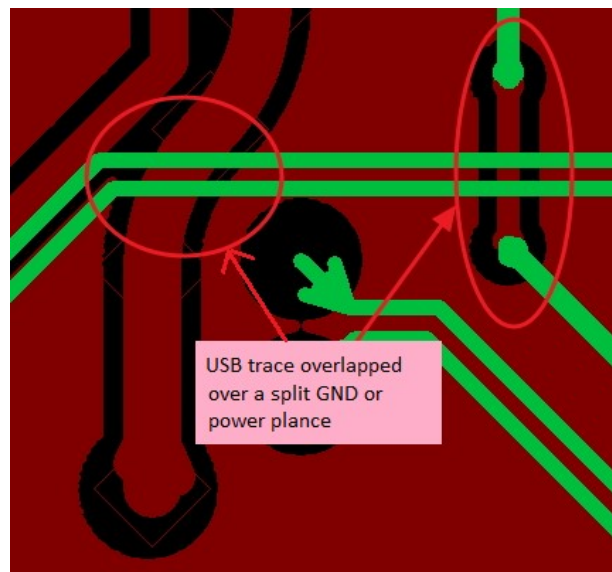

Figure 3
- Never route USB2.0 differential traces over the split ground and power planes as Figure 3. For a worse example as Figure 3, USB2.0 differential traces are routed on the top layer of PCB and overlapped a split ground or power planes with other signal traces on the second/ adjacent layer(for 4-layer PCB) or the bottom/adjacent layer(for 2-layer PCB) of PCB.
- Route the SPI-bus traces on continuous ground in the next layer as possible for reference plane as Figure 3.